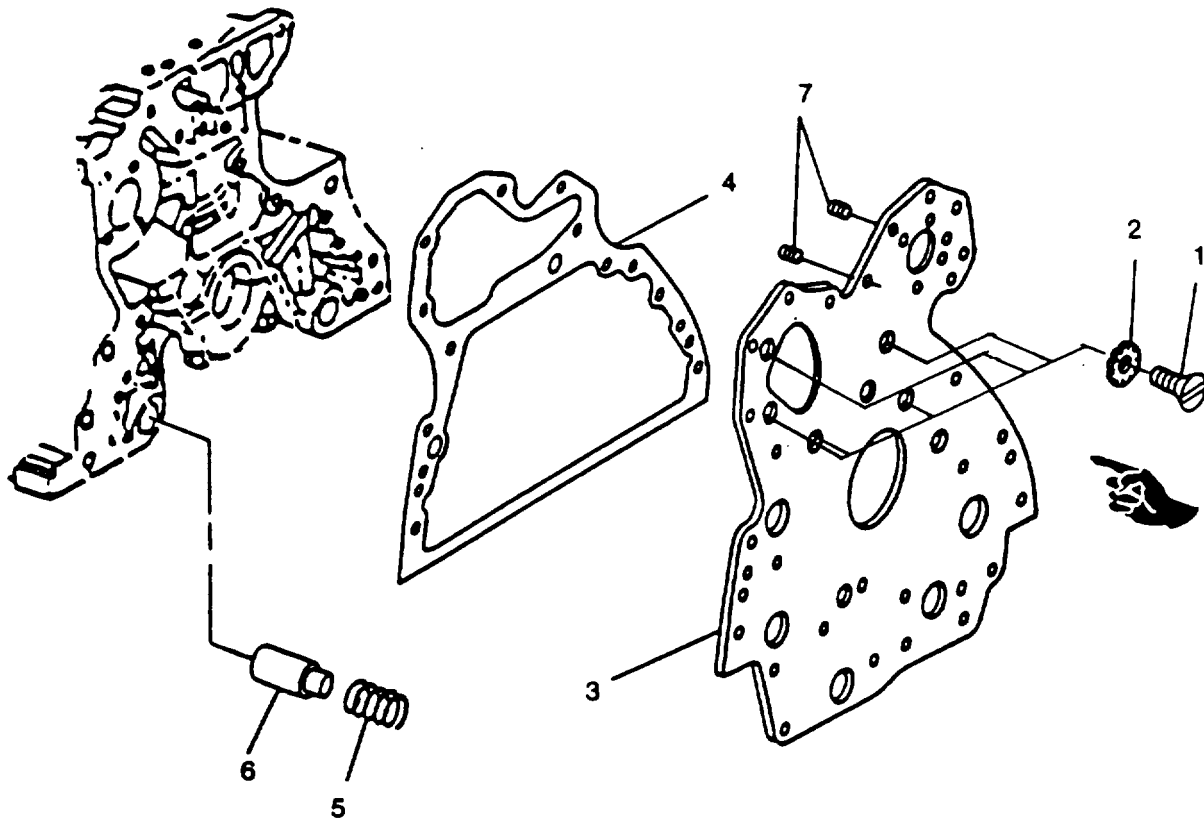

FIGURE 3-136. Front Plate
- f. Remove five screws (1, FIGURE 3-136) and lockwashers (2) securing front plate (3); remove front plate (3) and gasket (4). Discard gasket (4) and lockwashers (2).
- g. Remove oil bypass valve (6) and spring (5).
- h. If new front plate (3) is to be installed, remove setscrew plugs (7). Discard plugs.
Apply sealing compound (LOCTITE 242) to threads of studs and setscrew plugs (7, FIGURE 3-136) before installing in front plate.
- a. Install oil bypass valve (6, FIGURE 3-136) and spring (5) in engine block bore.
- b. Apply a light coating of sealing compound (FORMAGASKET2) to engine block side of new gasket (4).
- c. Install gasket (4) and front plate (3).
- d. Secure front plate (3) with five screws (1) and new lockwashers (2). Tighten screws to 25 ft-lbs (34 Nm).